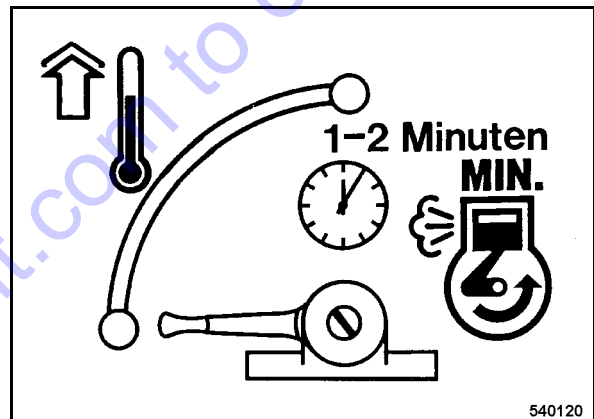

Fig. 16
- Set the throttle lever (Fig. 16) to position "MIN" and let the engine run warm for 1 to 2 minutes.